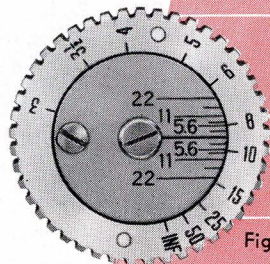

Fig. 14
3. Then move the focusing control to the position shown in Fig. 14 in which the numeral 8 on the footage scale appears just as much above the zero line as the numeral 10 below it. It can be seen that the numeral 8 points at the upper line marked 5.6 on the Depth of Focus Scale. This indicates that in this case all objects from 8 to 10 feet are rendered with acceptable sharpness if the diaphragm is stopped down to $f/5.6$.